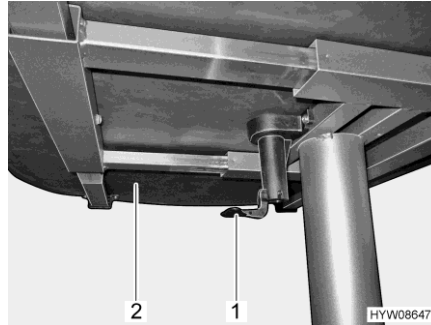

Fig. 96 Lever for moving the table top
- Pull or press down the lever (Fig. 96,1).
- Move the table top (Fig. 96,2) to the desired position.